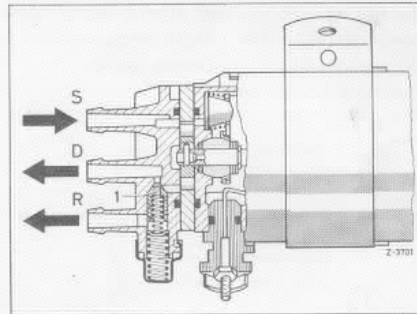

FIG. 2
1. The FUEL PUMP (Fig. 2) supplies approx. 60% more fuel than needed. This keeps the fuel lines relatively cool and chances of vapor locks are therefore minimal.